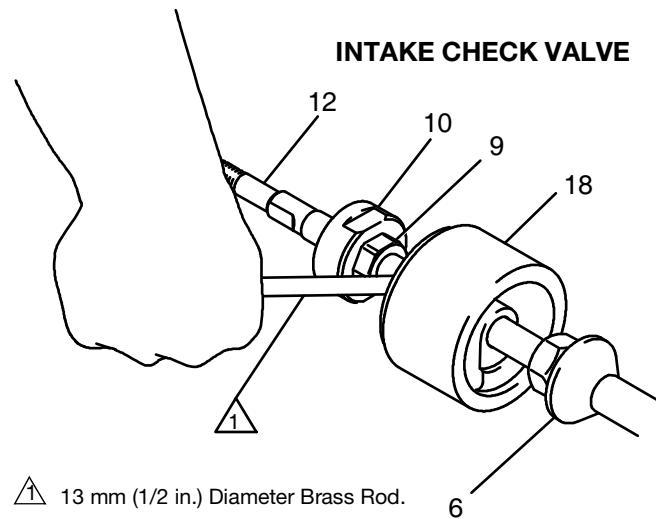

Fig. 7
**NOTE:** Repair Kit 222860 is available to replace the packings and seals. Parts included are denoted with an asterisk, for example (7\*). Repair Kit 222974 is available to repair the intake valve. Parts included are denoted with a symbol, for example (10). For the best results, use all the new parts in the kits. Conversion Kit 222861 is available to convert the pump to all PTFE v-packings, and Conversion Kit 222862 is available to convert to leather v-packings. See page 30.
2. Hold the flats of the priming piston rod (12) with an adjustable wrench, and use a second wrench to unscrew the priming piston nut (14) from the rod. Slide the priming piston (15) and guide (13) off the rod. Inspect the outer surface of the guide (13) and the inner and outer surfaces of the piston (15) for scoring, wear, or other damage.
3. Stand the pump upright in a vise. Loosen the packing nut (2) using the packing nut wrench (104) supplied, or a hammer and brass rod. Using a socket wrench, remove the six capscrews (32).
4. Tap the underside of the outlet housing (19) with a rubber mallet to loosen the housing from the cylinder (4). Lift the outlet housing off the pump and set it aside. Be careful not to scratch the displacement rod (1) while removing the housing. Remove the seal (39) from the top of the cylinder.
5. Lift the cylinder (4) up off the intake housing (17). The displacement rod (1), piston assembly, intake valve assembly, and priming piston rod (12) will come with the cylinder.
6. Place the cylinder (4) sideways in a vise with soft jaws. Using a rubber mallet on the end of the priming piston rod (12), drive the displacement rod (1) and piston assembly out the top of the cylinder. Continue to pull the rod out of the cylinder until the priming piston rod (12) comes free.
7. Remove the seal (39) from the bottom of the cylinder (4). Hold the cylinder up to the light at an angle to examine the inside surface for scoring or damage.
8. Place the flats of the displacement rod (1) in a vise. Using a 13 mm (1/2 in.) diameter brass rod, pry the intake check valve assembly away from the rod guide (18) far enough to apply wrenches to the valve assembly. See Fig. 7.